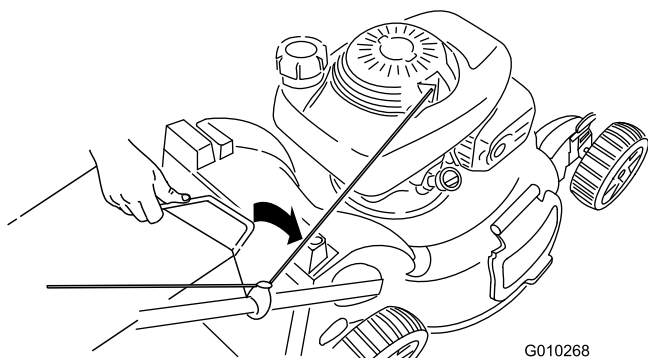

Figure 29
3. Insert the grass-bag handle into the grooves at the top of the machine (Figure 29).